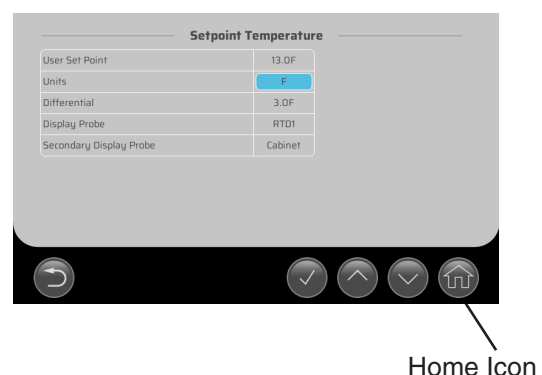

Fig. 25
- Press the home icon to return to the touchscreen setup view. See Fig. 25.